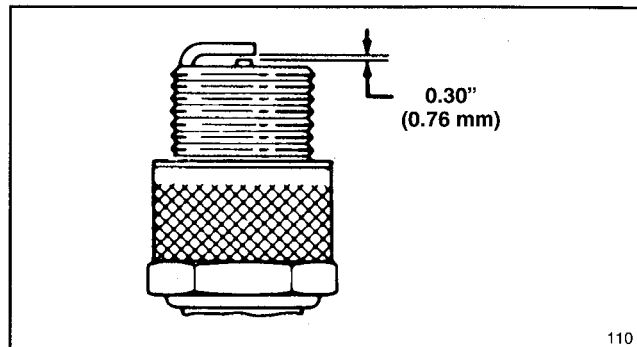

Figure 39
3. Set air gap between electrodes of new spark plug at 0.030" (0.76 mm) (Fig. 39). Next, install spark plug in cylinder head. Tighten plug to 15 ft—lb (20.4 N·m).